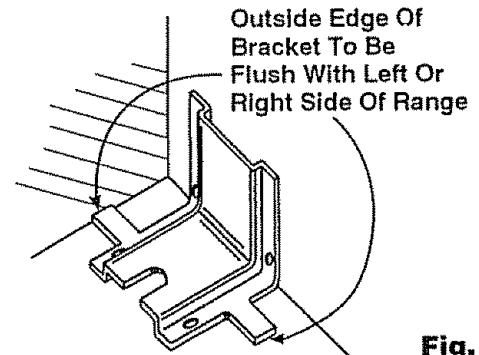

Fig. 1
3. If the bracket side of the range is adjacent to a cabinet, place the bracket against back wall and cabinet as shown in Figure 1.